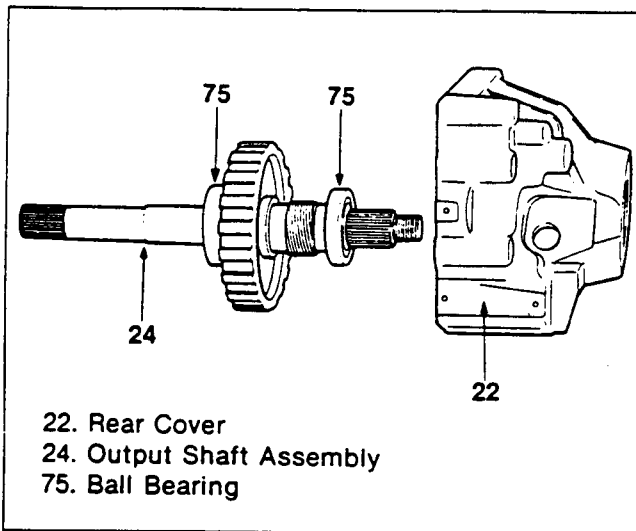

Figure 41. Rear Cover and Output Shaft Assembly Removal (2)
6. Separate the output shaft assembly from the rear cover (figure 41).
Inspect (Figure 41)